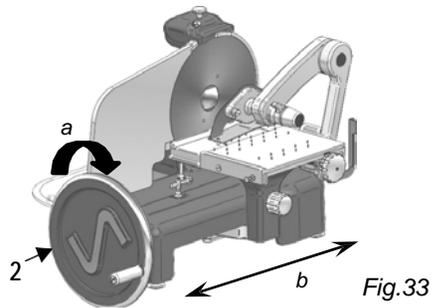

Fig.33
- (LS version only) turning the flywheel (ref.2 Fig. 33) clockwise (ref.a Fig.33), check the smoothness of plate sliding and that it is free of obstructions along the entire stroke of its working plane (ref.b Fig.33);
- (LA version only) Press the AUTO button and start the machine with the ON button. Check the smoothness of plate sliding and that it is free of obstructions along the entire stroke of its working plane (ref.b Fig. 33);
- (LA version only) Press the MAN button and, turning the flywheel (ref.2 Fig. 33) clockwise (ref.a Fig.33), check the smoothness of plate sliding and that it is free of obstructions along the entire stroke of its working plane (ref.b Fig.33);